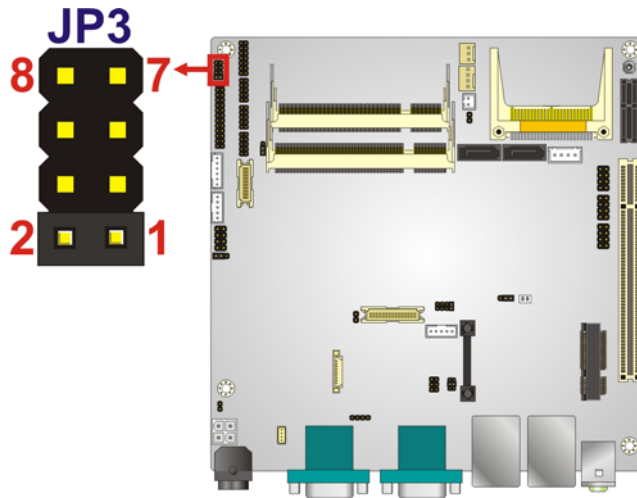

Figure 4-11: Serial Port Jumper Locations
- Jumper Location:** See Figure 4-11